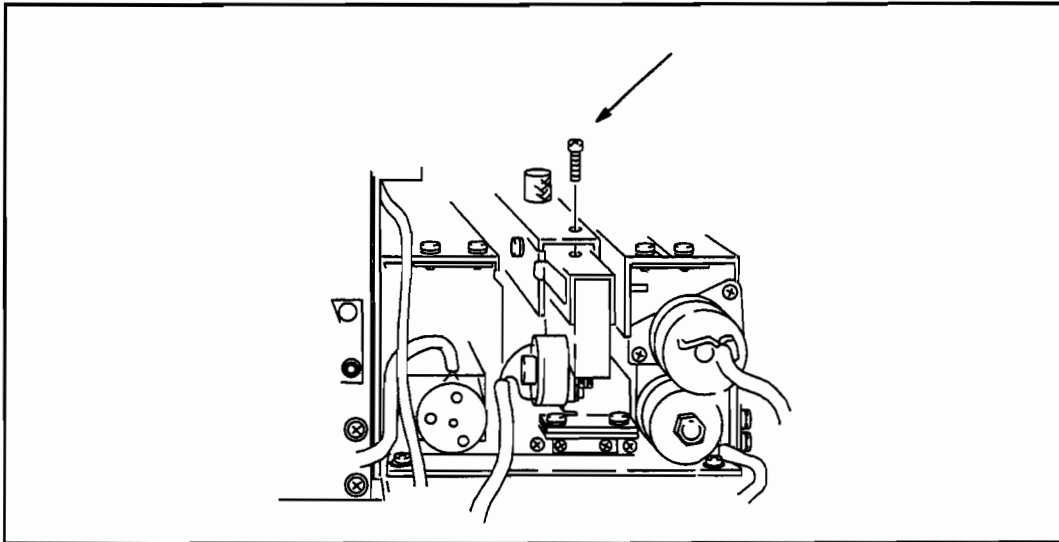

Figure 3-7. "Y" Cutter Lock
3. Use a small Pozidriv screwdriver to remove the screw. See Figure 3-7.